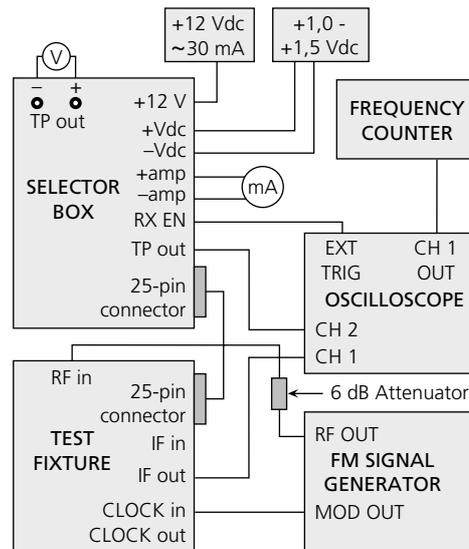

Figure 23. Equipment for alternate setup using Signal Generator and Oscilloscope.
- 1 Connect the test equipment as shown in figure 23.